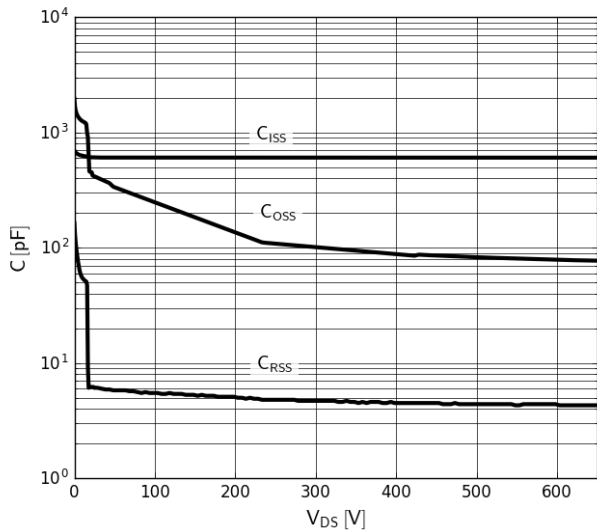

Figure 5. Typical Capacitance
- Dynamic on-resistance; see Figures 5 and 6 for test circuit and conditions